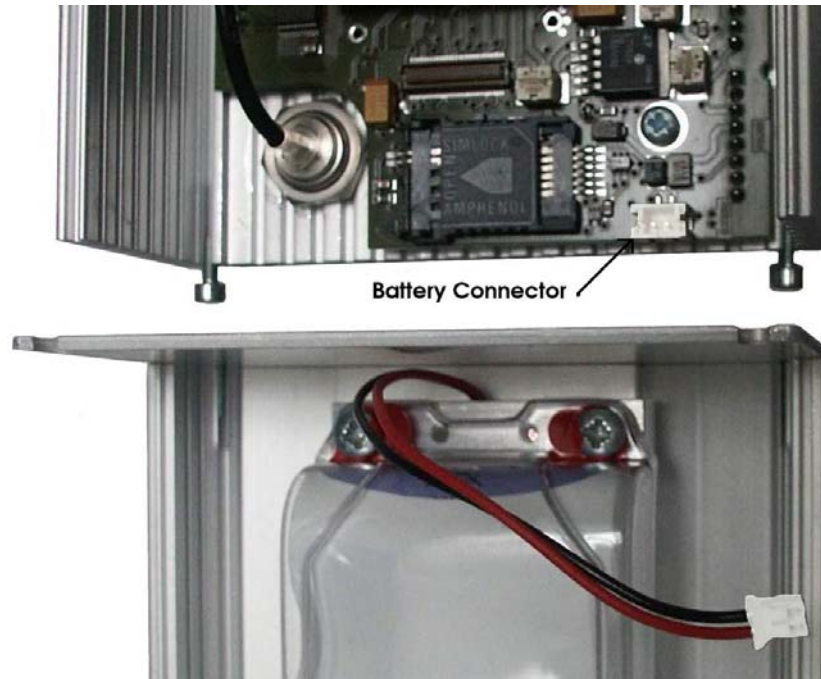

Fig. 5: Unplugging the PCB Connector
2. The battery pack is connected to the electronics board by means of a PCB connector. Remove the battery pack's plug from the PCB connector, as shown in Fig. 5.